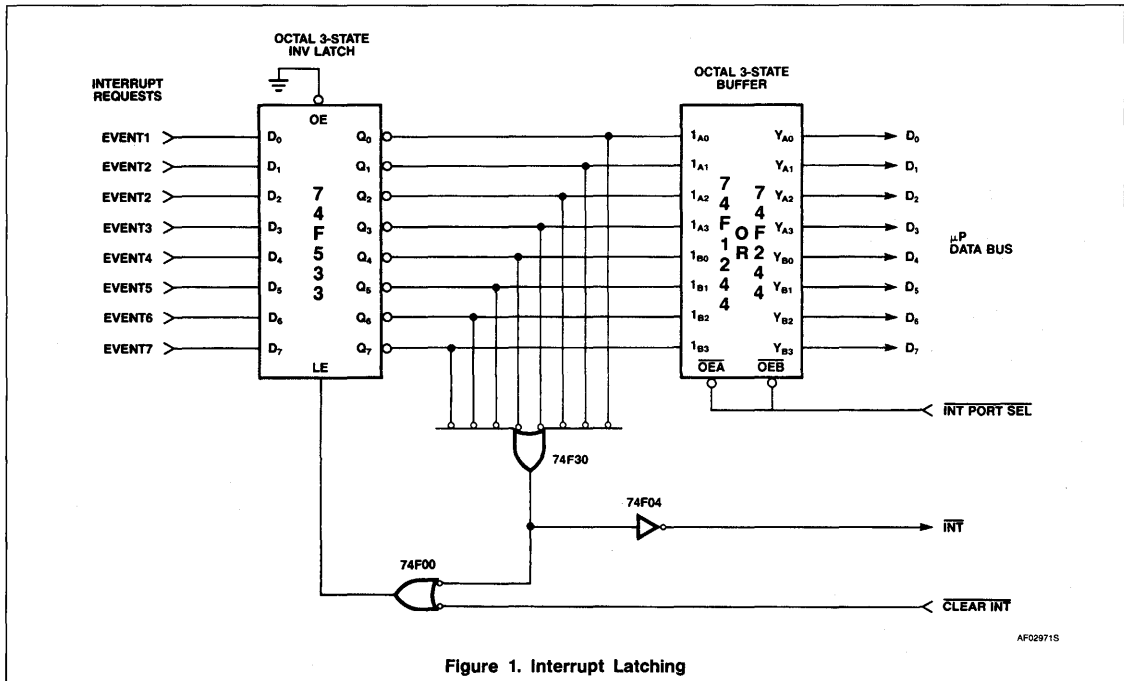

Figure 1. Interrupt Latching
Figure 1 shows a circuit that captures asynchronous events and generates an interrupt to the microprocessor. The 74F533 inverting octal latch is used to "freeze" the state of the interrupt inputs. This is necessary to catch short interrupt request pulses. When all interrupt requests are inactive, the latch enable (LE) input of the 74F533 is asserted. When any request is asserted, the interrupt signal to the microprocessor ($\overline{\text{INT}}$) is asserted and the latch is disabled. Thus, the state of the interrupt inputs is latched.